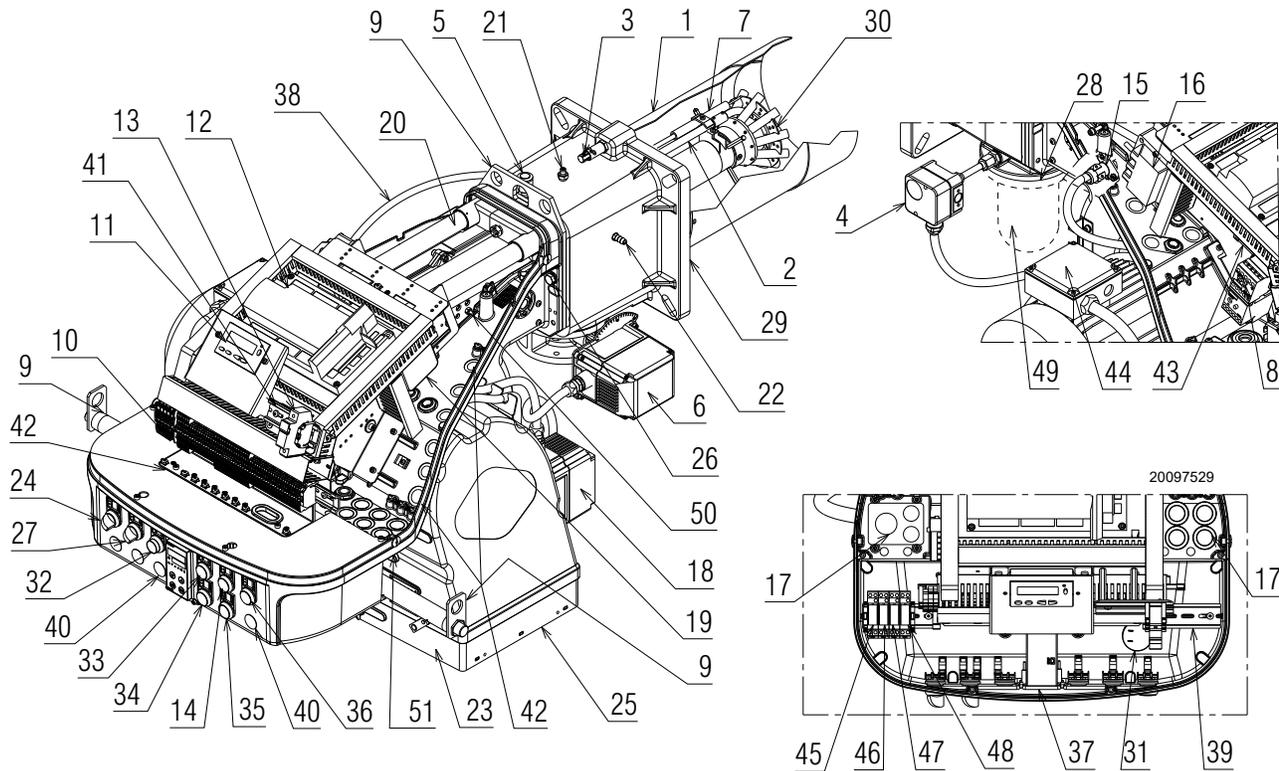

Fig. 3
(1) Reference conditions: Ambient temperature 68 °F (20 °C) - Barometric pressure 394" WC - Altitude 329 ft.
(2) Pressure at test point 21)(Fig. 3, page 8), with zero pressure in the combustion chamber, with open gas ring 2)(Fig. 22) at maximum burner output
(3) Sound pressure measured in manufacturer's combustion laboratory, with burner operating on test boiler and at maximum rated output. The sound power is measured with the "Free Field" method, as per EN 15036, and according to an "Accuracy: Category 3" measuring accuracy, as set out in EN ISO 3746.
| <ul style="list-style-type: none"> <li>1 Combustion head</li> <li>2 Burner pilot</li> <li>3 Screw for combustion head adjustment</li> <li>4 Maximum gas pressure switch</li> <li>5 Burner pilot attachment</li> <li>6 Gas actuator</li> <li>7 Ignition electrode</li> <li>8 Fan motor contactor and thermal relay with reset button</li> <li>9 Lifting ring</li> <li>10 Terminal board for electrical wiring</li> <li>11 Operator panel with LCD display</li> <li>12 Control box for checking flame and air/fuel ratio</li> <li>13 Auxiliary fuse</li> <li>14 Signal "CALL FOR HEAT"</li> <li>15 Flame sensor</li> <li>16 Ignition transformer</li> <li>17 Holes for cable grommets for electrical wiring for accessories (to be carried out by the installer)</li> <li>18 Air actuator</li> <li>19 Air pressure switch (differential operating type)</li> <li>20 Sliding bars for opening the burner and inspecting the combustion head</li> <li>21 Gas pressure test point and head fixing screw</li> <li>22 Air pressure test point</li> <li>23 Extension sliding bars</li> <li>24 Switch "OFF - ON"</li> <li>25 Fan air inlet</li> <li>26 Screws to secure fan to pipe coupling</li> <li>27 Switch "LOCAL REMOTE"</li> <li>28 Gas butterfly valve</li> <li>29 Boiler fixing flange</li> <li>30 Flame stability disc</li> </ul> | <ul style="list-style-type: none"> <li>31 Horn</li> <li>32 Button "ALARM SILENCE"</li> <li>33 Signal "POWER ON"</li> <li>34 Signal "IGNITION ON"</li> <li>35 Signal "FUEL ON"</li> <li>36 Signal "ALARM ON"</li> <li>37 RWF55 modulator (with analog output 4-20 mA)</li> <li>38 High voltage lead</li> <li>39 Din bar available for accessories</li> <li>40 Optional holes</li> <li>41 Din bar for fuse holder step-down transformer and OCI 412.10</li> <li>42 Ground terminals</li> <li>43 Din bar for thermal relay, fan motor contactor and available for accessories</li> <li>44 Fan motor</li> <li>45 k1 relay</li> <li>46 k5 relay</li> <li>47 k3 relay</li> <li>48 k2 relay</li> <li>49 Gas train flange</li> <li>50 Air pressure switch test point "+"</li> <li>51 Air pressure switch test point "-"</li> </ul> <p>Two types of burner failure may occur:</p> <ul style="list-style-type: none"> <li>➤ Flame safeguard lock-out - if the flame safeguard alarm 36)(Fig. 3) lights up, it indicates that the burner is in lock-out. To reset, press the reset pushbutton.</li> <li>➤ Fan motor trip - release by pressing the pushbutton on thermal overload 8)(Fig. 3). See "Thermal relay Thermal relay calibration" on page 23.</li> </ul> |